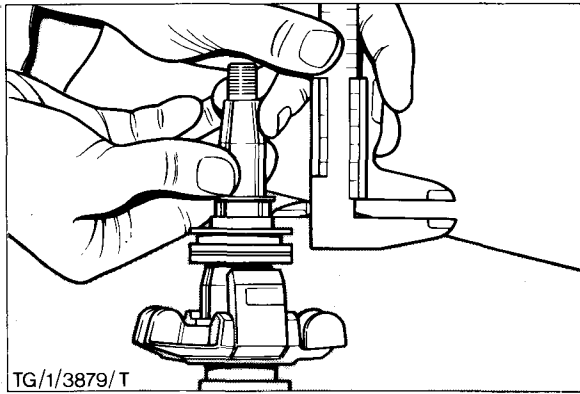

Fig. 75 - Measuring Dimension B (Dorset Shown)
27. Measure dimension 'B', from the end of the thrust collar spigot, or governor hub sleeve, to the rear face of the spacer ring, when the spacer ring is tight against the stop disc (Fig. 75).